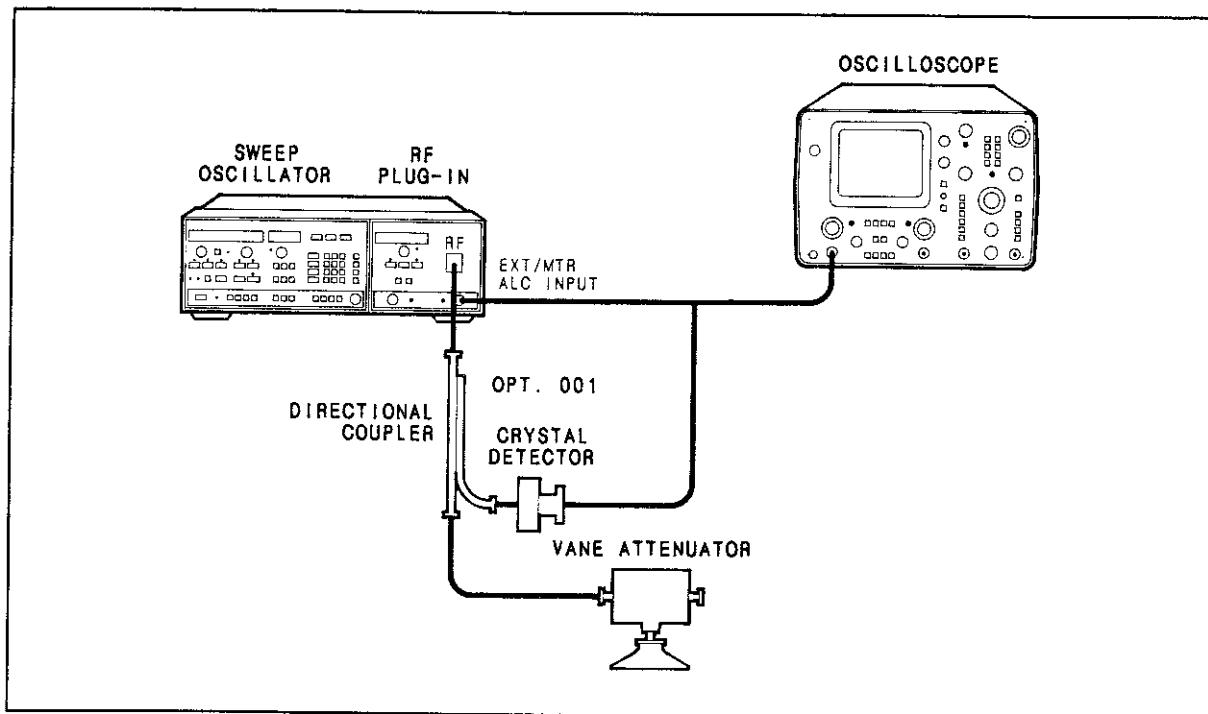

Figure 5-18. ALC Gain Adjustment Setup
1. Connect equipment as shown in Figure 5-18.